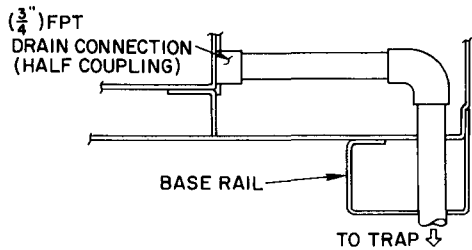

Fig. 9 — Condensate Drain Piping Details
Step 5 — Trap Condensate Drain — See Fig. 4 and 8 for drain location. Plug is provided in drain hole and must be removed when unit is operating. One 3/4-in. half coupling is provided inside unit evaporator section for condensate drain connection. An 8-1/2 in. x 3/4-in. diameter and 2-in. x 3/4-in. diameter pipe nipple coupled to standard 3/4-in. diameter elbows provide a straight path down through holes in unit base rails (see Fig. 9). A trap at least 4 in. deep must be used and must be protected against freeze-up.